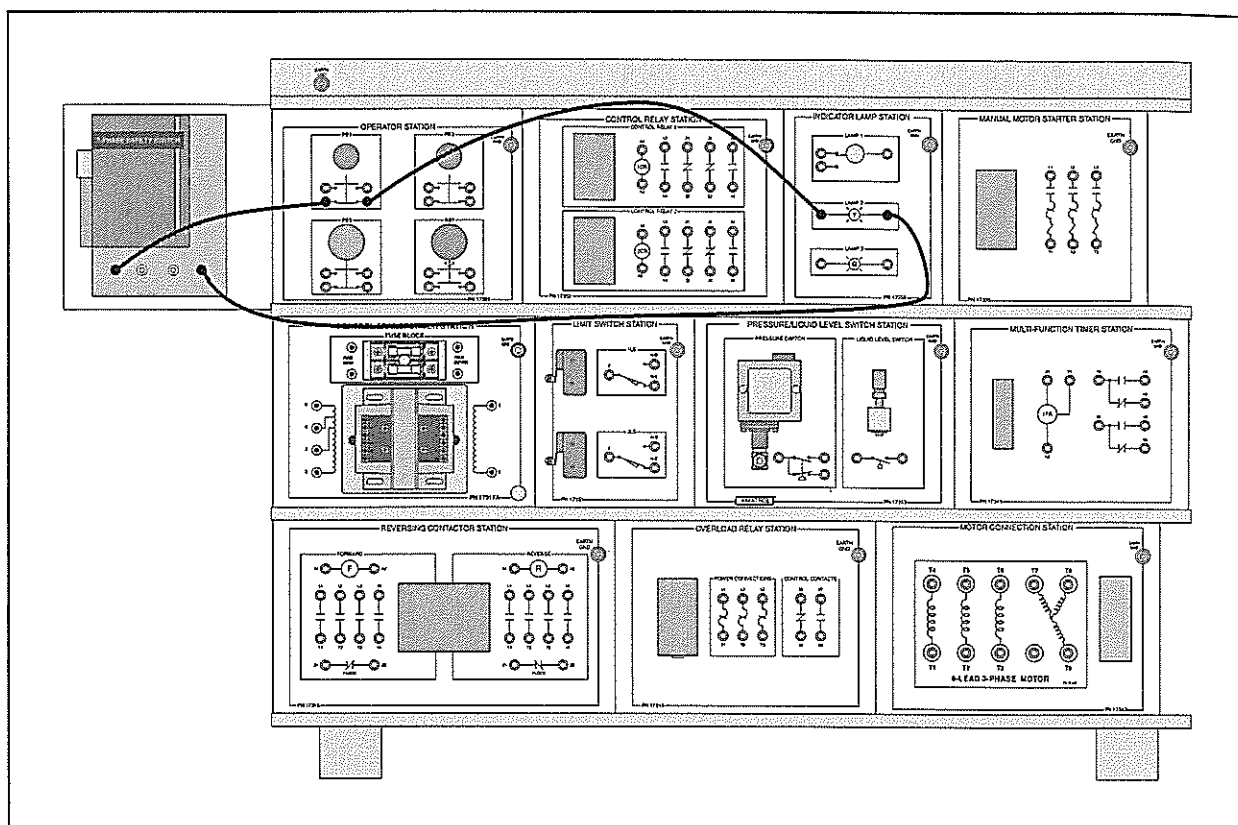

Figure 24. Pictorial Circuit Diagram for Skill 1
- 1. Study the circuit diagram in figure 24. Identify the power supply, any input devices, any output devices, and the conductors.